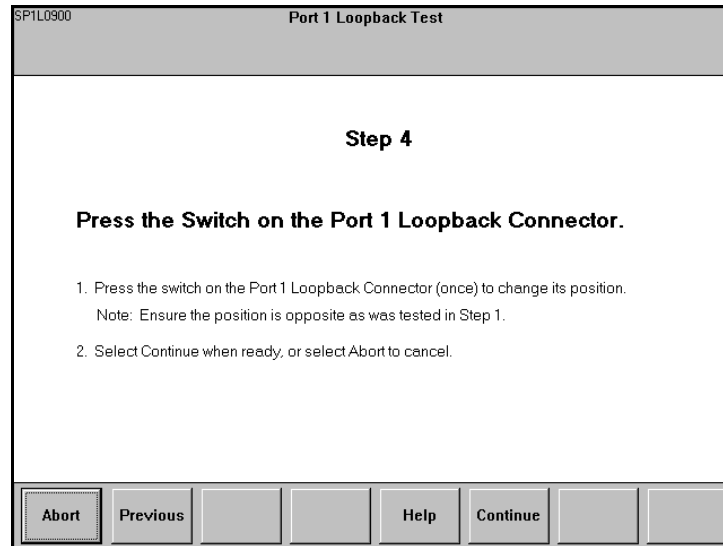

Figure 11
5. The Step 4 screen (Figure 11) instructs the operator to "Press the Port 1 Loopback Connector (once) to change its position." The switch should be placed in the opposite position from the previous test.